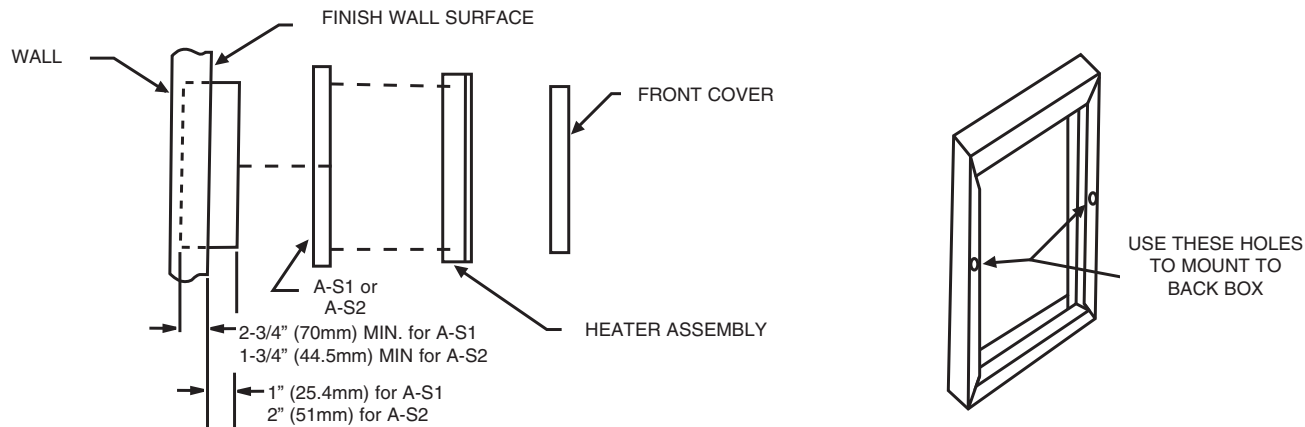

FIGURE 2
1. When using the A-S1 the front edge of the back box must extend 1” (25.4 mm) beyond the finished wall surface. When using the A-S2 the front edge of the back box must extend 2” (51 mm) beyond the finished wall surface (See Figure 2).
1. Position the semi-recessed sleeve on the back box and attach with two (2) #6 X 3/8” (3.5 mm X 9.5 mm) screws (provided) through holes as indicated in Figure 2.